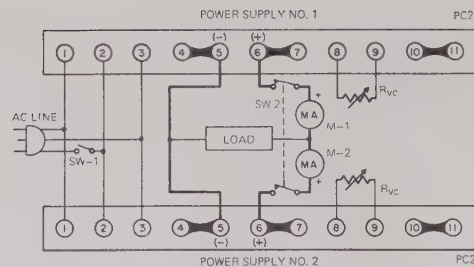

FIG. 3-13 PARALLEL CONNECTION OF PCX-MAT SUPPLIES
3-45 PROCEDURE (Refer to FIG. 3-13)
- Connect units as shown in FIG. 3-13. Open SW-1 and SW-2 and connect to line.